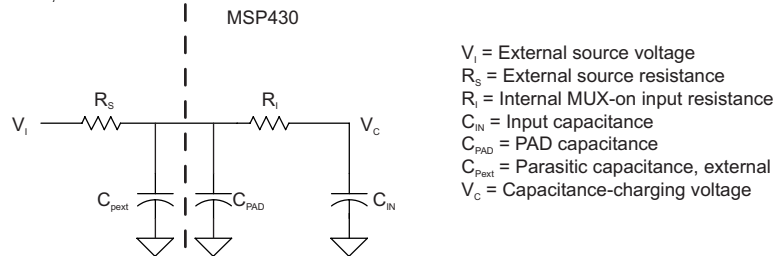

图 5-16. eCOMP Input Circuit
(1) For details on the eCOMP C_{IN} model, see 图 5-16.